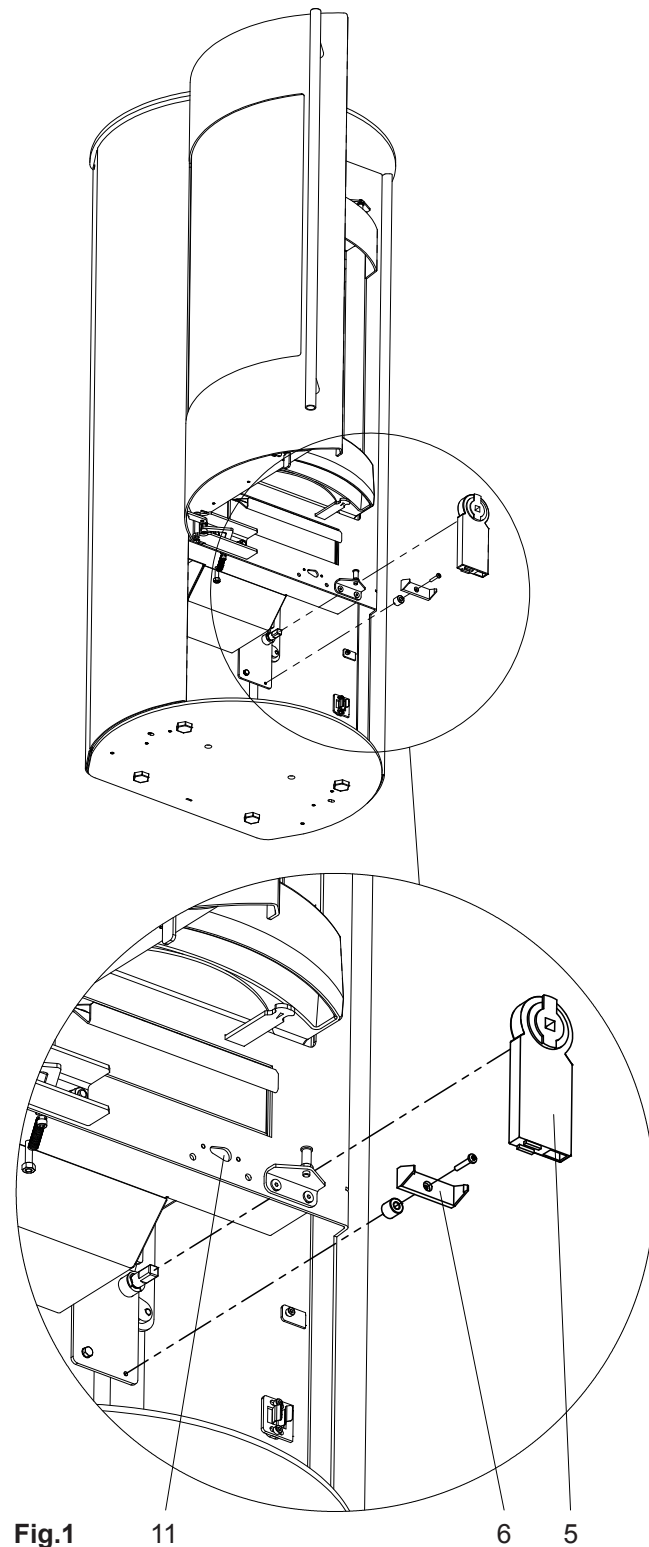

Fig.1
- Tighten the motor retaining clip (6) with the spacer sleeve to the motor console. Push the servo-motor (5) onto the rotation axis of the air regulator lever and snap into the motor retaining clip (Fig.1).
- Install the door contact switch (fastening position, see Fig.1), the temperature sensor and the cord for the power supply as described in chapter "General installation steps", step 2-7.